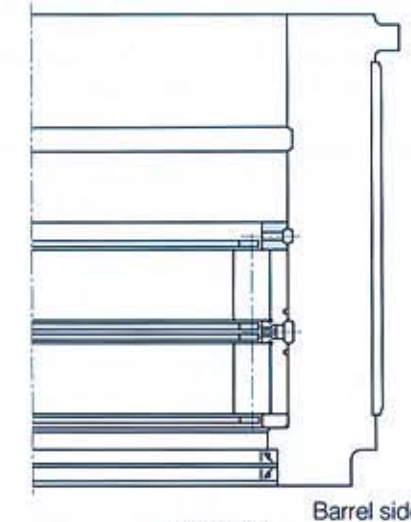
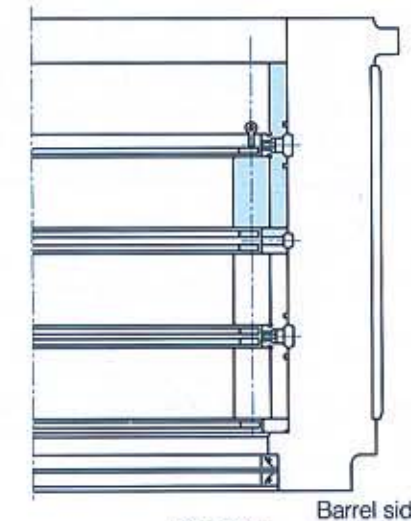

Fig. 3.24
Fig. 3.25
- (9) Apply the lubricant over all the surfaces of the rib ring and then insert it. In this case, the rib ring may be inserted by placing it on the roller end surface when the row B cage is to be assembled. Use the oil holes for lifting of the rib ring. (**Fig. 3.24**)
- (10) Apply the lubricant to the outer ring end surface with matching symbols C and D, and to the roller's rolling surface and both ends of the row C rollers.
- (11) Place the row C cage with the marked side (row C) facing downward, then place the outer ring with matching symbol C facing downward on the row C cage. Install special eyebolts into the four tapped holes in the cage. Lift the cage and the outer ring, verify that the load position numbers match each other, and insert it slowly into the chock. (**Fig. 3.25**)